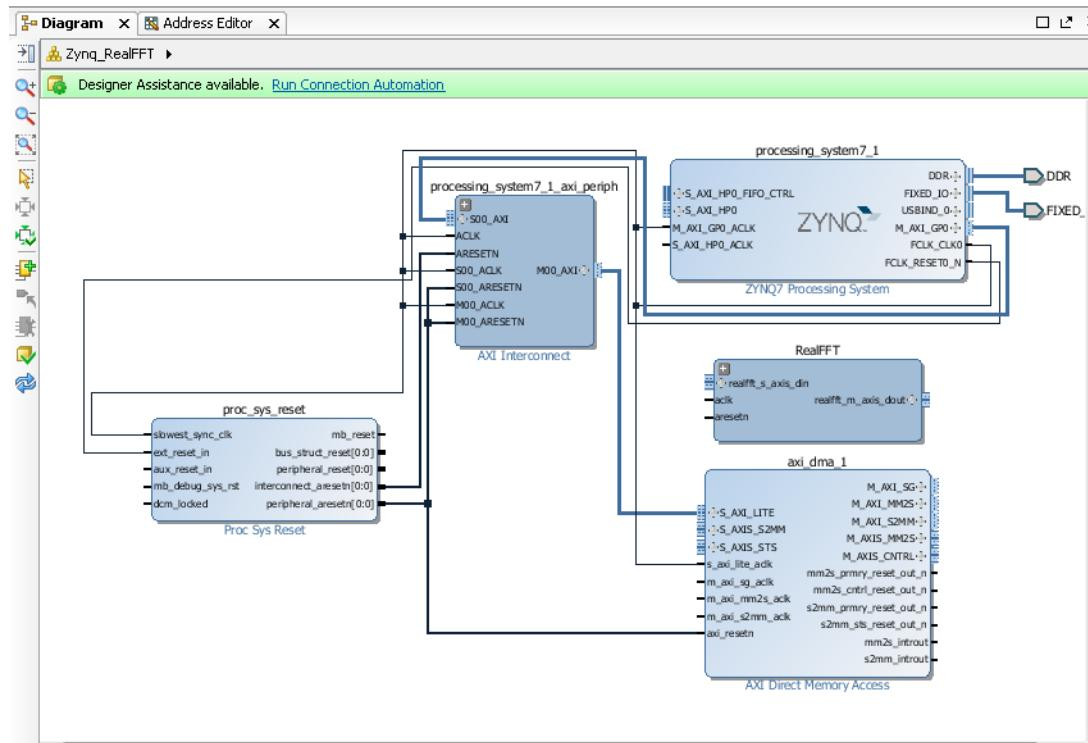

Figure 10-44: Zynq Diagram with Internal Connections
25. To complete the design, run Validate Design. When validation completes successfully, the block diagram should look like Figure 10-44.